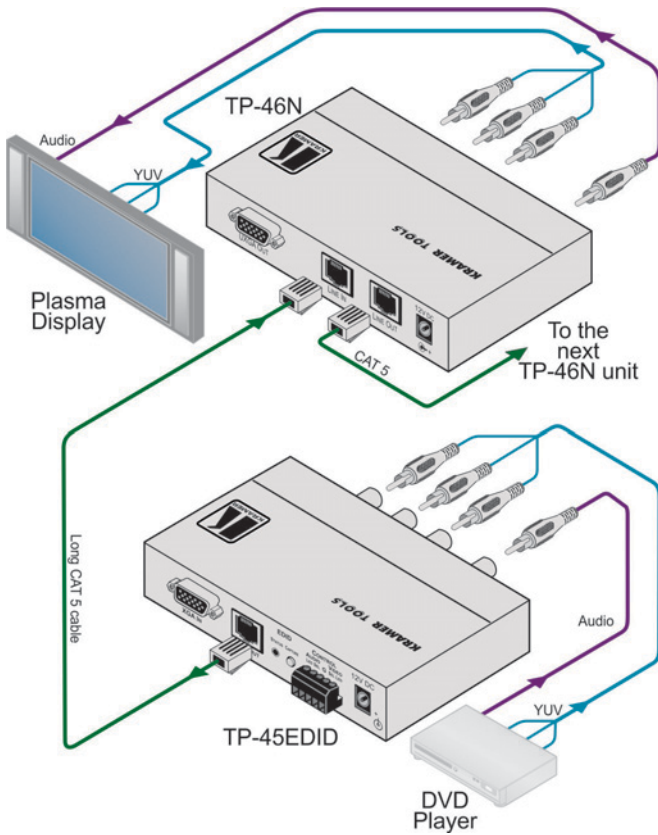

Figure 3: Component/XGA – Audio Distribution System, Component Video Mode
To configure a **TP-45EDID/TP-46N** Component/XGA – Audio distribution system in the component video mode, as the example in Figure 3 illustrates, do the following:
5. Connect the 12V DC power adapter to the power socket and connect the adapter to the mains electricity on both the **TP-45EDID** and the **TP-46N** (not shown in Figure 3).